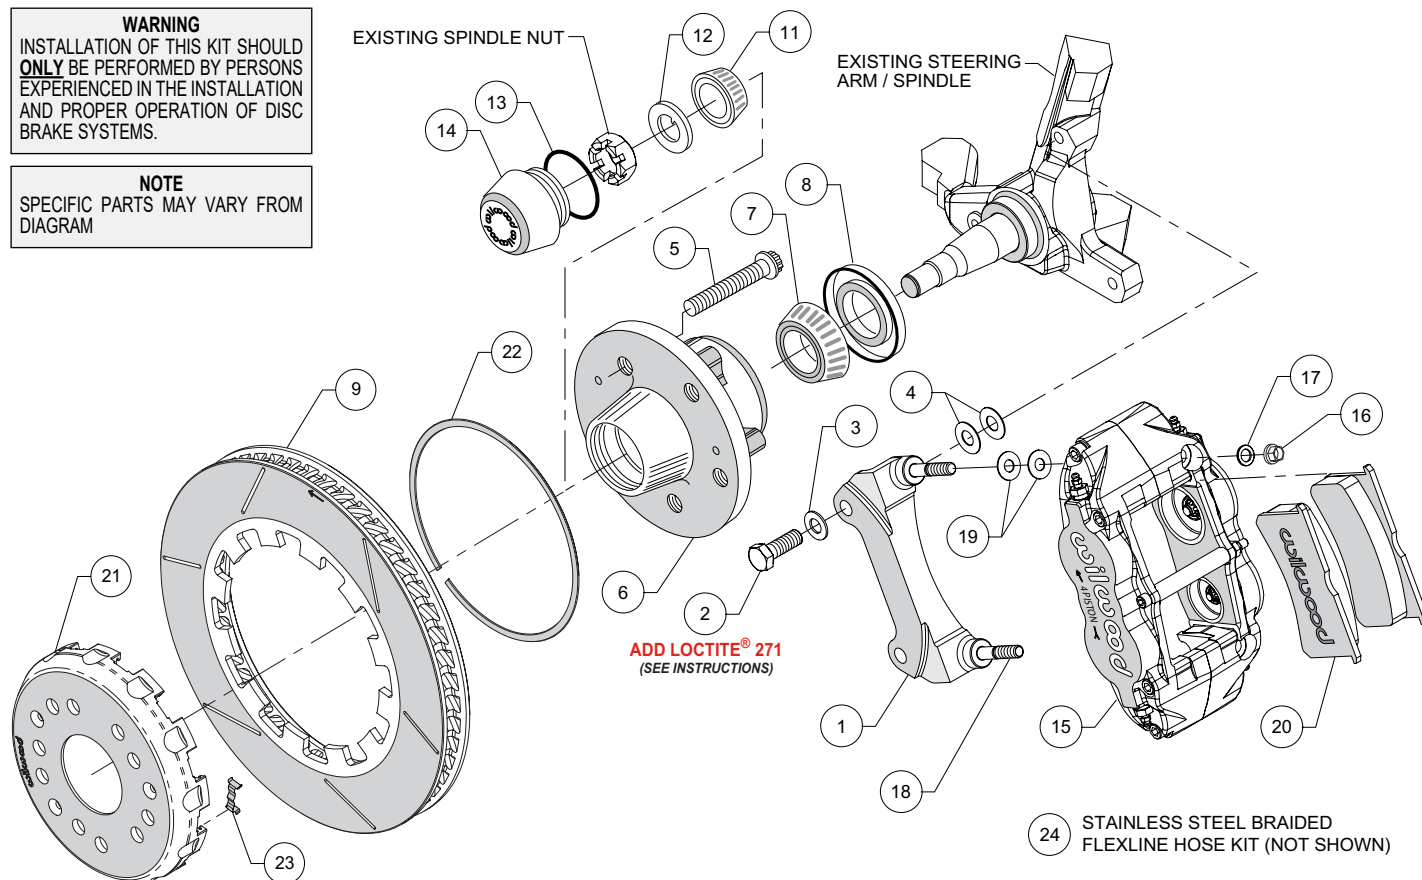

Figure 2. Typical Installation Configuration
- The caliper mount bracket (1) should initially be installed with clean, dry threads on the mounting bolts. Orient the bracket as shown in Figure 2 and Photo 1, and install using bolts (2) and washers (3). Initially place two .033" thick shims (4) on each bolt between the bracket and upright, Figure 2. Temporarily tighten the mounting bolts.
- NOTE:** *This kit contains distinct right and left hand calipers that must be mounted in a specific direction, as described below.* Initially place two .035" thick shims (19) on each stud (18) between the caliper and the bracket, as shown in Figure 2 and Photo 10. Mount the caliper (15) onto the bracket (1) using lock nuts (16) and washers (17), Figure 2. Ensure that the caliper is mounted so the largest pistons are at the rotor exit end of the caliper, in relation to the direction of rotor rotation. Temporarily tighten the lock nuts and view the rotor through the top opening of the caliper. The rotor should be centered in the caliper, Photo 11. If not, adjust by adding or subtracting shims (4) between the bracket and the spindle. Always use the same amount of shims on each of the two mounting bolts. Once the caliper alignment is correct, remove the bracket mounting bolts (2) one at a time, apply red *Loctite*® 271 to the threads, and torque to 60 ft-lb.